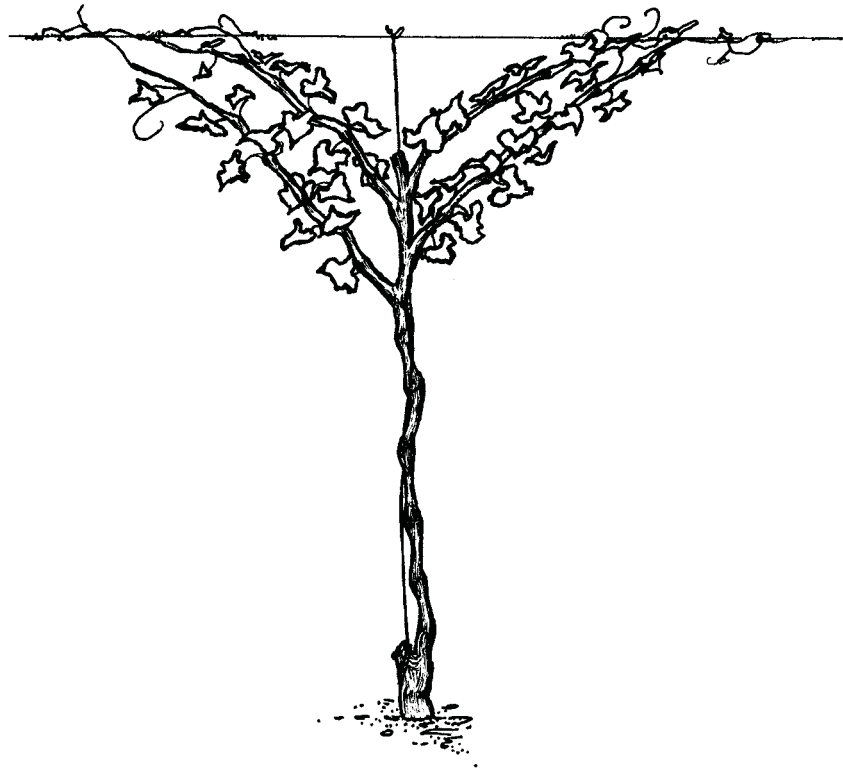

Figure 16. Training and attaching shoots to cordon wire
them to the cordon wire with plastic tape. Alternatively, loosely wrap the cane around the wire. Do not attach these canes too tightly onto the wire. Try to develop a gentle curve in the canes from where they emerge off the main trunk onto the wire. This will minimise breakage and damage to vines when they are bearing weight or being mechanically harvested (Figure 16).
- If canes were headed below the cordon wire to one, two-bud spur, these canes can be trained up onto cordon wires as for training vines that have been headed (Figure 16).